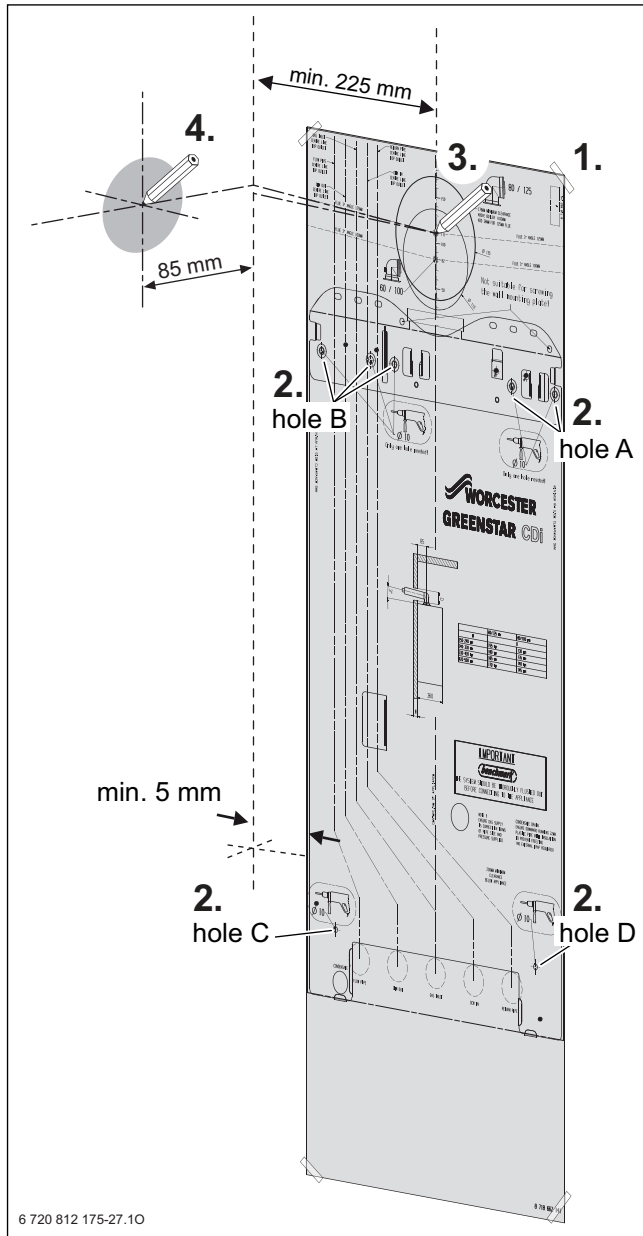

Fig. 28 Mounting template
- Fig. 28 shows the relative positions of the flue and the fixing of the wall mounting plate including hanging bracket and pre-plumbing manifold.
- ▶ Follow the Fig. 28 to mark the centre of the flue for rear outlet (3) or for side outlet (4).